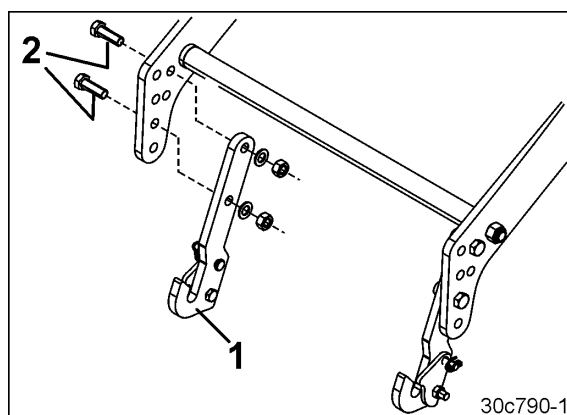

Fig. 102
1. Fasten the catch hooks (Fig. 102/1) to the lifting frame using two screws for each one (Fig. 102/2).